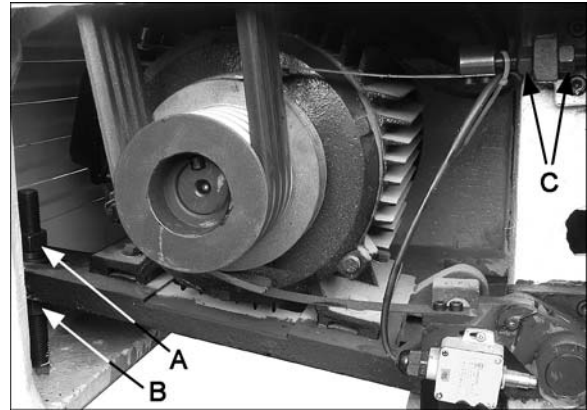

Figure 42 – Belt and brake strap adjustment
3. Loosen upper hex nut (A, Figure 42). Place scrap piece of wood under motor to act as lever. Lift motor up and block temporarily.
6. Tension belts by loosening lower nut (B, Figure 42) and tightening down upper nut (A, Figure 42) until light finger pressure causes approximately 3/4" deflection on each belt.
After the clutch is disengaged, the main drive can be stopped by the brake. If the spindle does not stop rapidly, the brake strap may need adjustment. Use the two adjusting nuts (Figure 42) to tighten the strap. Do not overtighten the strap, which can cause it to distort.